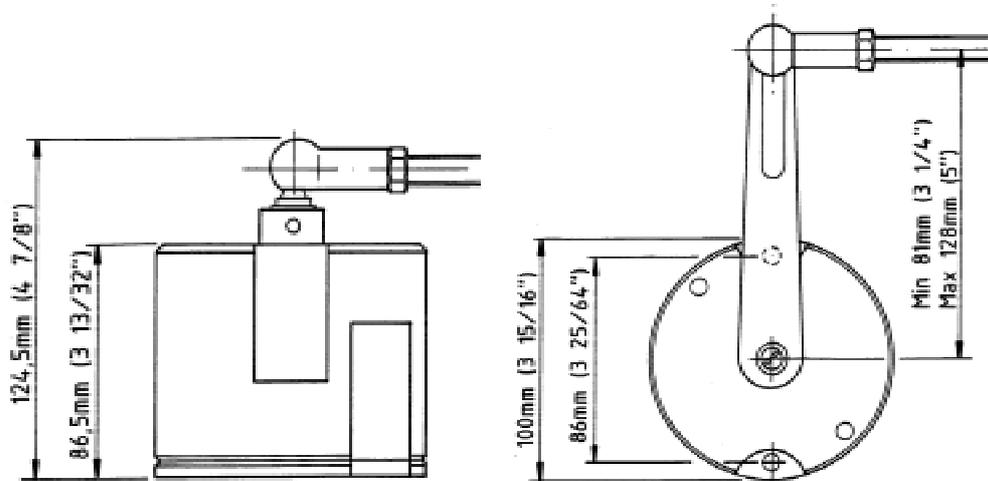

Figure 3-8 RF45X Rudder Feedback Unit
- Dimensions:.....See Figure 3-8